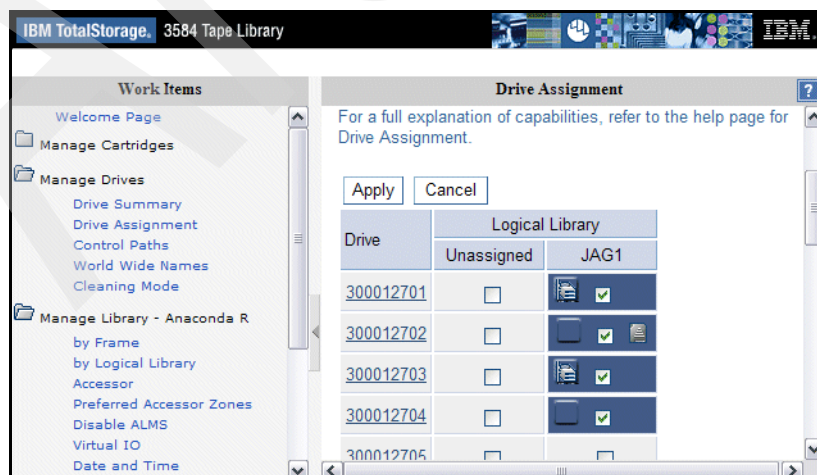

Figure 3-7 IBM TS3500: Enabling additional control paths with ALMS enabled
3. Locate the drive that you want to enable (or disable) as the control path drive by selecting the blue icon to the left of the checkbox such that a drive icon appears as shown in Figure 3-7. In the example, drive 2703 was selected to enable as an alternate control path.